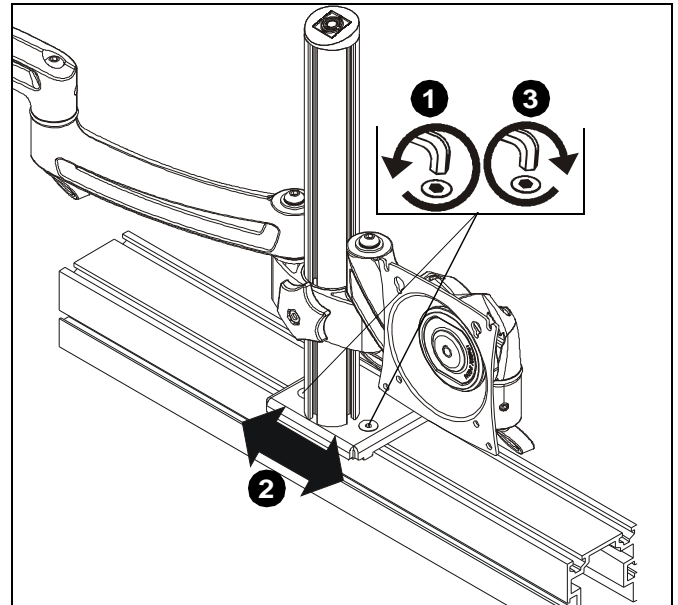

Figure 9
1. Loosen two #10-32 x 7/8" flat head cap screws (F). (See Figure 9)
2. Adjust lateral shift position as desired. (See Figure 9)
3. Tighten two #10-32 x 7/8" flat head cap screws (F). (See Figure 9)